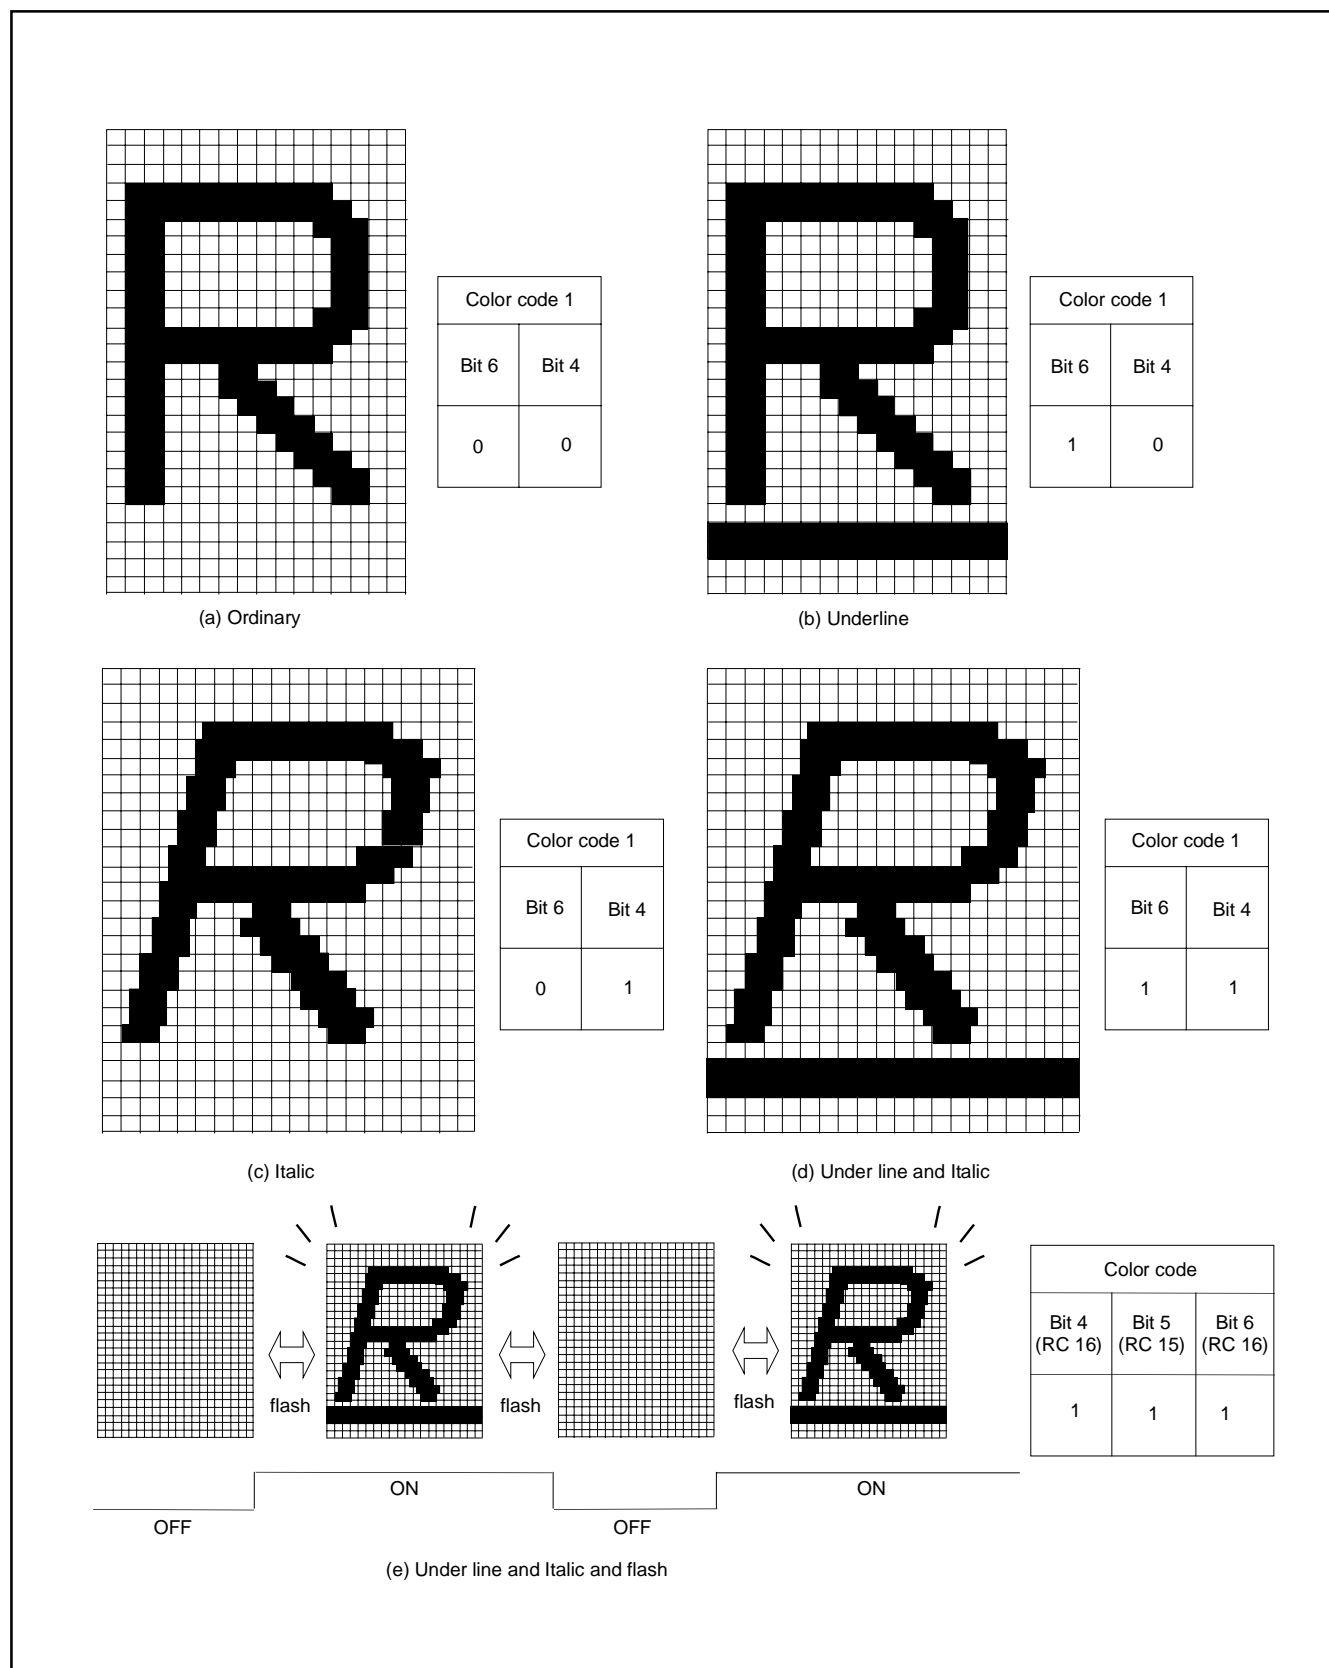

Fig. 8.11.30 Example of Attribute Display (in CC Mode)
- 4: When the pre-divide ratio = 1, the italic character with slant of 1 dot X 5 steps is displayed (refer to Figure 8.11.30 (c)). When the pre-divide ratio = 2, the italic character with slant of 1/2 dot X 10 steps is displayed (refer to Figure 8.11.30 (d)).